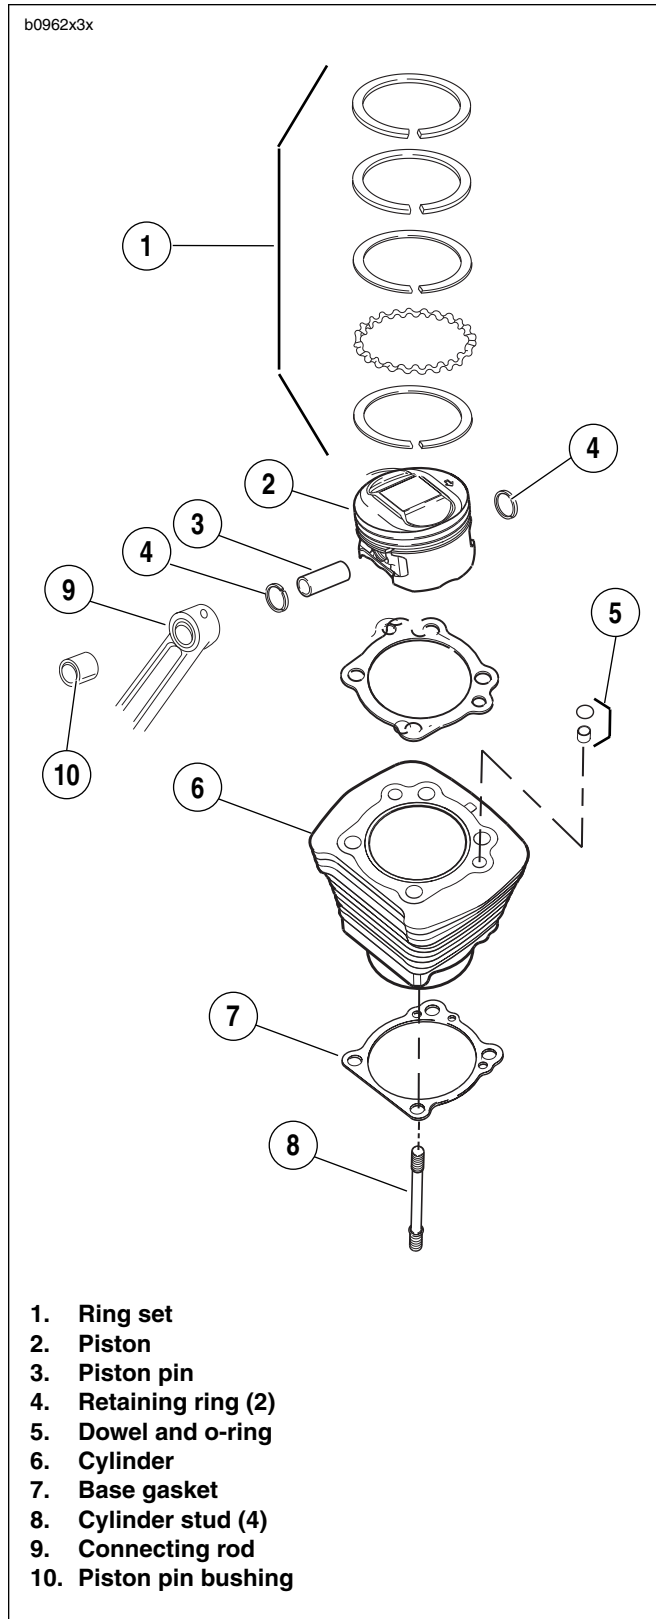

Figure 3-86. Cylinder and Piston
4. See Figure 3-86. Turn engine over until piston of cylinder being removed is at bottom of its stroke.